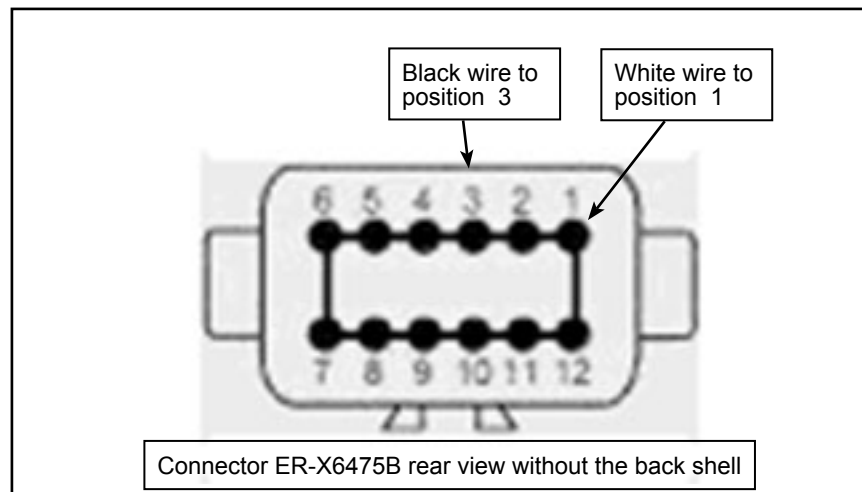

Figure 3 - ER-X6475B Back View Pin Out
- 2.6. From the received N632000466 harness, connect the free white wire to position **1** on the radiator harness connector **ER-X6475B**. See Figure 3.
- 2.7. From the received N632000466 harness, connect the free black wire to position **3** on the radiator harness connector **ER-X6475B**. See Figure 3.